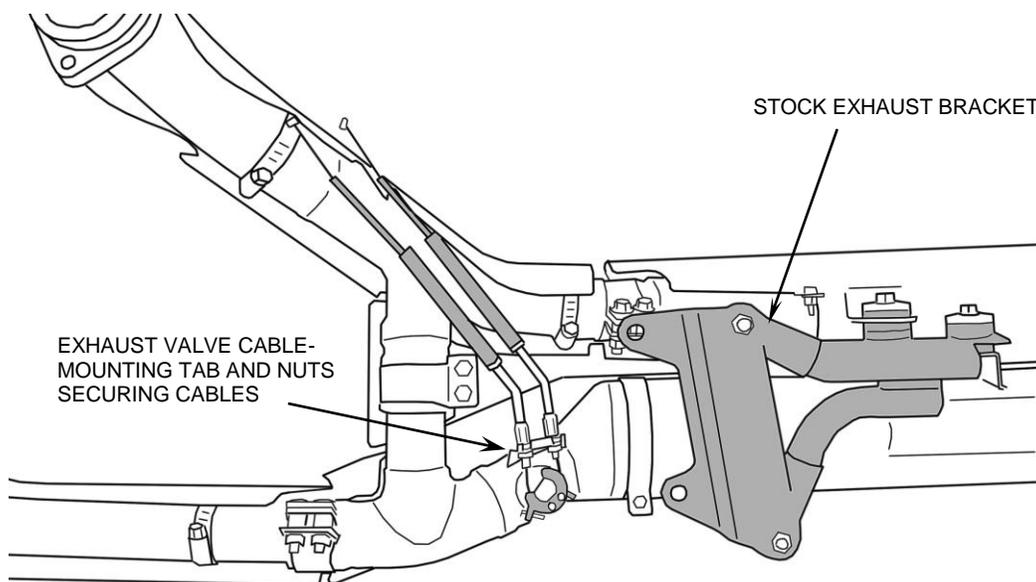
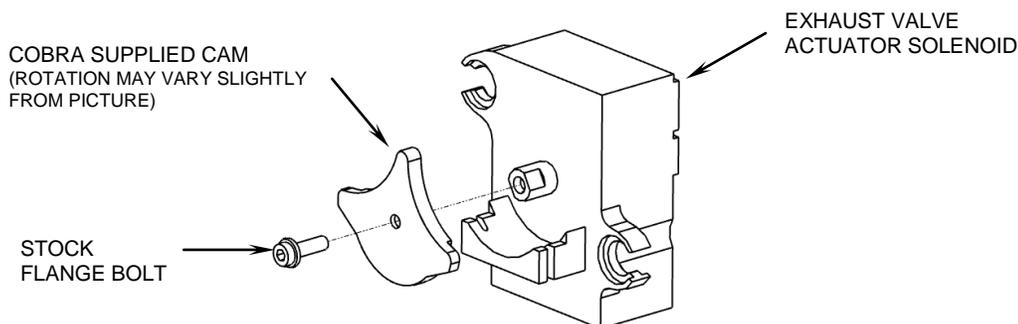

FIGURE 1
FIGURE 2
2. The exhaust valve actuator cables must now be removed from the stock exhaust system. Loosen the two nuts securing each cable to the exhaust valve cable-mounting tab. Make enough slack in the cables so that the ends of the cables threaded sheath may be disengaged from the end of the mounting tab. See Figure 1.
3. Locate the (2) O₂ sensors in the headpipes and follow the wires to the connectors. Disconnect the O₂ sensor connectors and label the connection locations to avoid mix up during reinstallation.
4. Remove the M8 socket head bolts securing the exhaust flanges to cylinder heads, set these fasteners aside for later use in reassembly. Support the weight of the exhaust system and remove the (2) M10 bolts securing the exhaust mounting bracket and exhaust assembly to frame. Remove the stock exhaust system as one complete unit; this includes the stock exhaust bracket, headpipes and muffler.
6. Hold the cam secure to prevent it from rotating in the solenoid, and remove the bolt. Replace with the Cobra supplied cam, **BE SURE TO PREVENT THE CAM FROM ROTATING WHEN REINSTALLING** with the original bolt. See Figure 2. Tighten to proper torque specs.